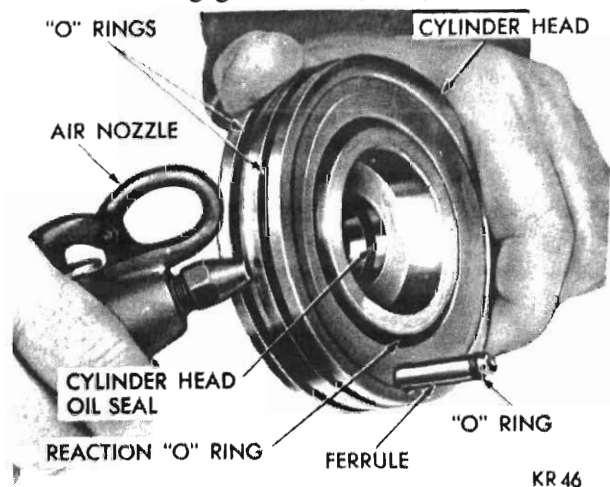

Fig. 15 - Removing reaction seal ring from cylinder head
(18) Remove the upper thrust bearing race (thin) and upper thrust bearing.
(19) Remove the centre bearing race.
(20) Remove the lower thrust bearing, and lower thrust bearing race (thick).
(21) Remove the lower reaction ring and reaction spring.
(22) Remove the cylinder head assembly.
(23) Remove the two 'O' rings in the two outer grooves in the cylinder head.
(24) Remove the reaction 'O' ring from the groove in the face of the cylinder head with air pressure directed into the hole located between the two 'O' ring grooves (Fig. 15).